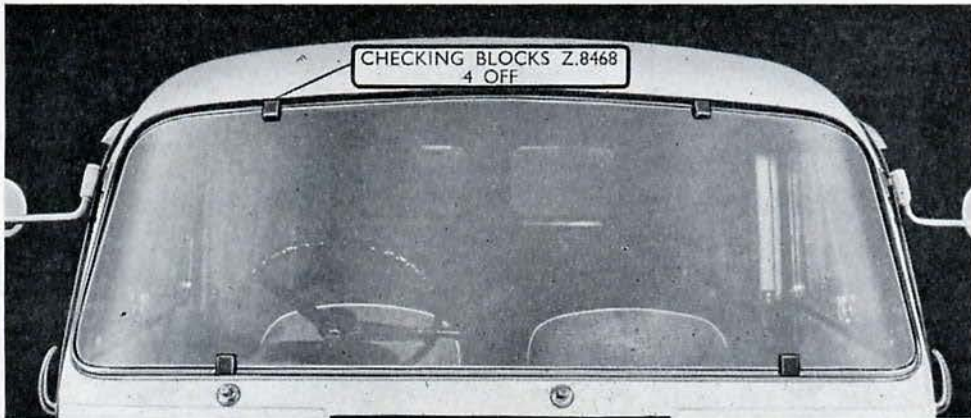

Fig. W.2. Windshield glass supported in body aperture by blocks when checking aperture for distortion or damage
- (a) Support the glass in the aperture with four checking blocks located as shown in Fig. W.2 and check that the spacing between the edge of the glass and the aperture flange is uniform and the contour of the flange compares favourably with that of the glass.